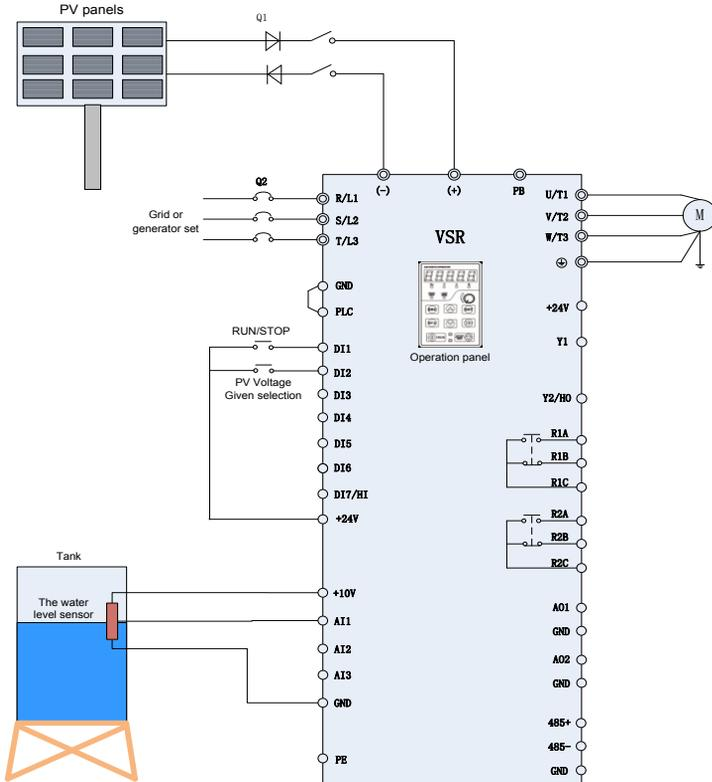

Fig 7-4 Grid or Generator Power Supply Wiring Diagram
Refer wiring drawing of inverter as shown in Figure 7-4
1) Refer Figure 7-4 and ensure wiring is done as per the connection panel done in this figure.